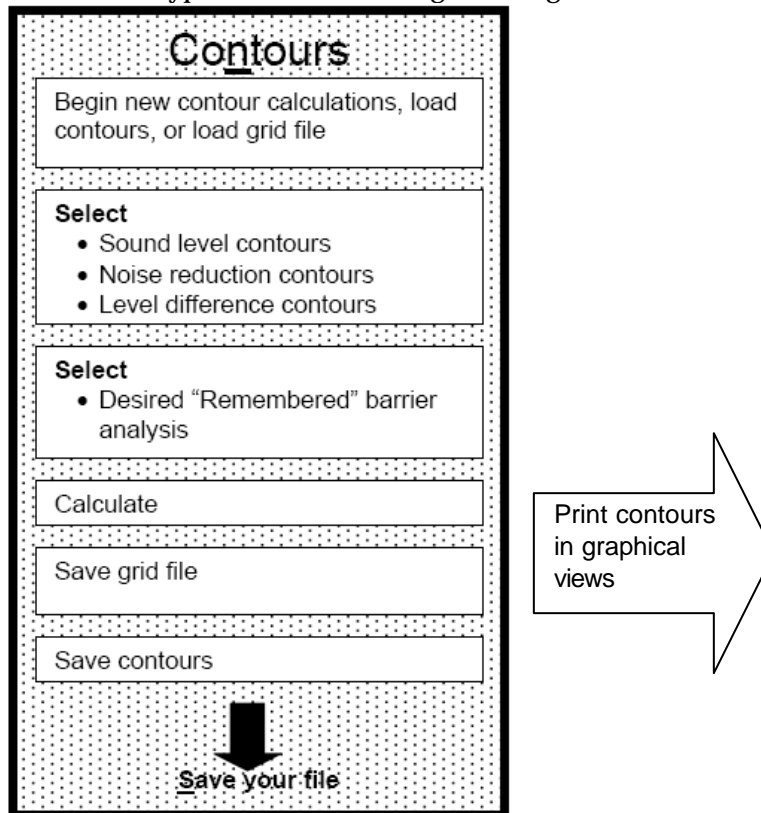

Figure 60. Contours: Work flow.
There are three types of contours available within TNM: (1) Sound Level Contours (see Section 12.2); (2) Noise Reduction Contours, i.e., barrier insertion-loss contours (see Section 12.3); and (3) Level Difference Contours (see Section 12.4). To create a contour zone within which TNM will calculate contours, see Section 8.10. Figure 60 shows the typical work flow for generating contours.
As Figure 60 shows above, you must select a “Remembered” barrier analysis, prior to continuing on to calculating contours.